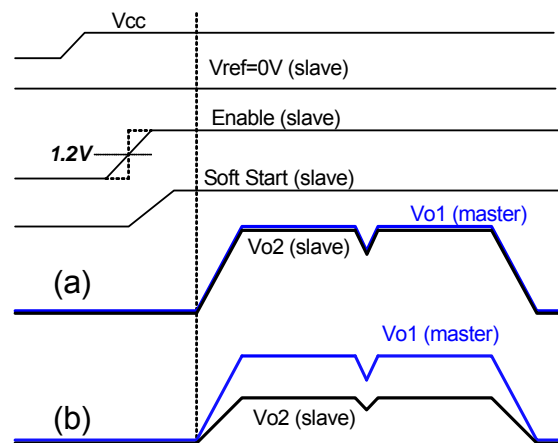

**Figure 12: Application Circuit for Simultaneous and Ratiometric Sequencing**
Tracking and sequencing operations can be implemented to be simultaneous or ratiometric (refer to Fig. 13 and 14). Figure 12 shows typical circuit configuration for sequencing operation. With this power-up configuration, the voltage at the Vp pin of the slave reaches 0.5V before the Fb pin of the master. If  $R_E/R_F = R_C/R_D$ , simultaneous startup is achieved. That is, the output voltage of the slave follows that of the master until the voltage at the Vp pin of the slave reaches 0.5 V. After the voltage at the Vp pin of the slave exceeds 0.5V, the internal 0.5V reference of the slave dictates its output voltage. In reality the regulation gradually shifts from Vp to internal Vref. The circuit shown in Fig. 12 can also be used for simultaneous or ratiometric tracking operation if Vref of the slave is connected to GND. Table 2 summarizes the required conditions to achieve simultaneous/ratiometric tracking or sequencing operations.
**TABLE 2: REQUIRED CONDITIONS FOR SIMULTANEOUS/RATIOMETRIC TRACKING AND SEQUENCING (FIG. 12)**